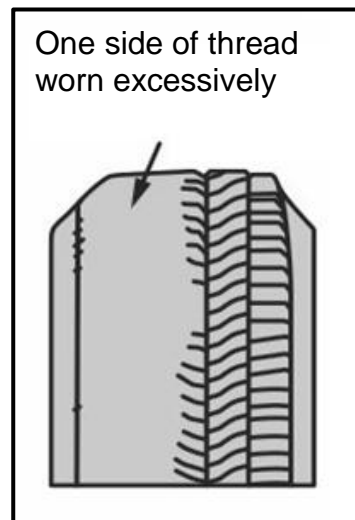

FIGURE 4.12
4.12 The tyre wear pattern shown in FIGURE 4.12 below is caused by ...